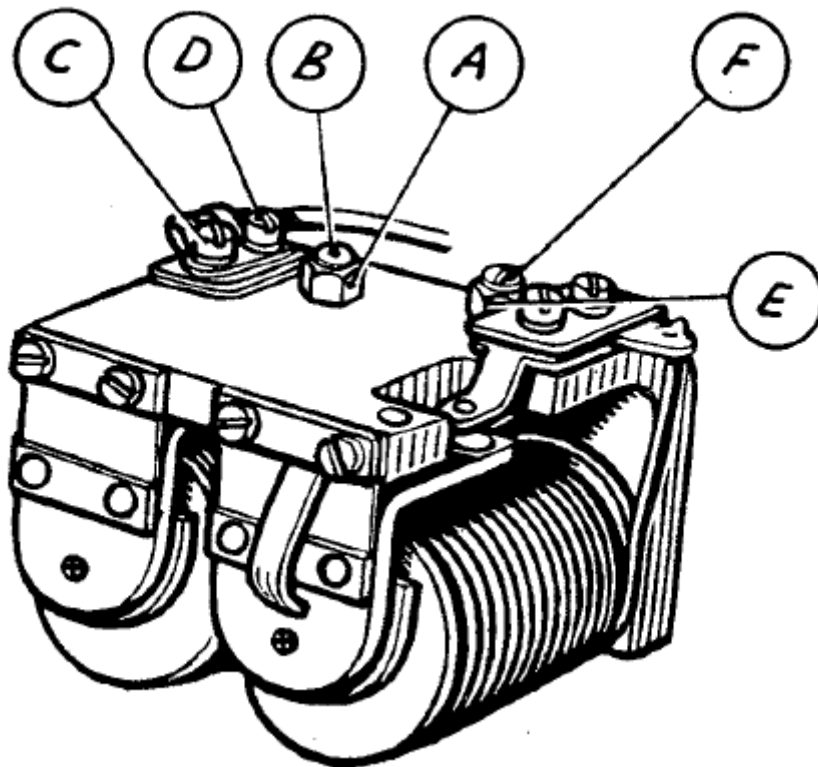

Fig. N.8 The cut-out and regulator assembly
Shut off the engine, remove the control box cover, release the locknut (A) (Fig. N.8) holding the adjusting screw (B) and turn the screw in a clockwise direction to raise the setting or in an anti-clockwise direction to lower the setting. Turn the adjusting screw a fraction of a turn and then tighten the locknut.
To render the regulator contacts accessible for cleaning, slacken the screws securing the plate carrying the fixed contact. It will be necessary to slacken the upper screw (C) (Fig. N.8) a little more than the lower screw (D), so that the contact plate can be swung outwards. Clean the contacts by means of fine carborundum stone or fine emery-cloth. Carefully wipe away all traces of dirt or other foreign matter. Finally tighten the securing screws.
If the cut-out has become out of adjustment and operates at a voltage outside these limits it must be reset. To make the adjustment, slacken the locknut (E) (Fig. N.8) and turn the adjusting screw (F) a fraction of a turn in a clockwise direction to raise the operating voltage or in an anti-clockwise direction to lower the voltage. Tighten the locknut after making the adjustment.